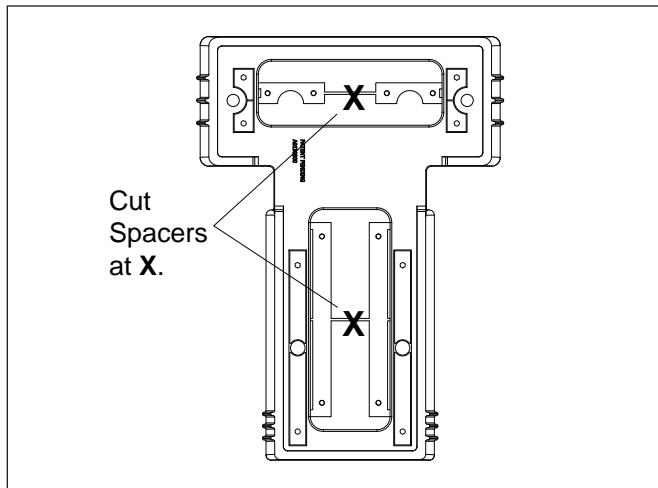
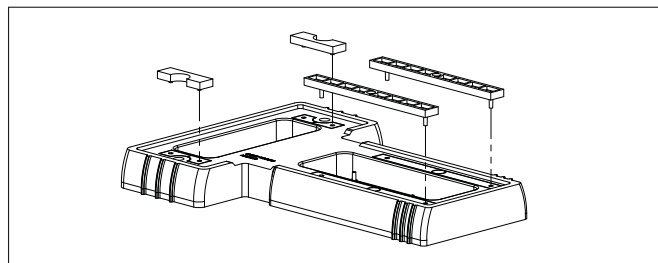

Figure 6. Cut Spacers
Figure 7. Place Spacers in Base
- Remove the two (2) bolts that attach the base and housing pump to the foundation.
- Cut the plastic bars connecting the top and bottom sets of spacers, as shown in Figure 6.
- Snap the two (2) top spacers and two (2) bottom spacers off the base.
- Align the pins in the four (4) spacers with the holes in the base and snap the spacers into place, as shown in Figure 7.